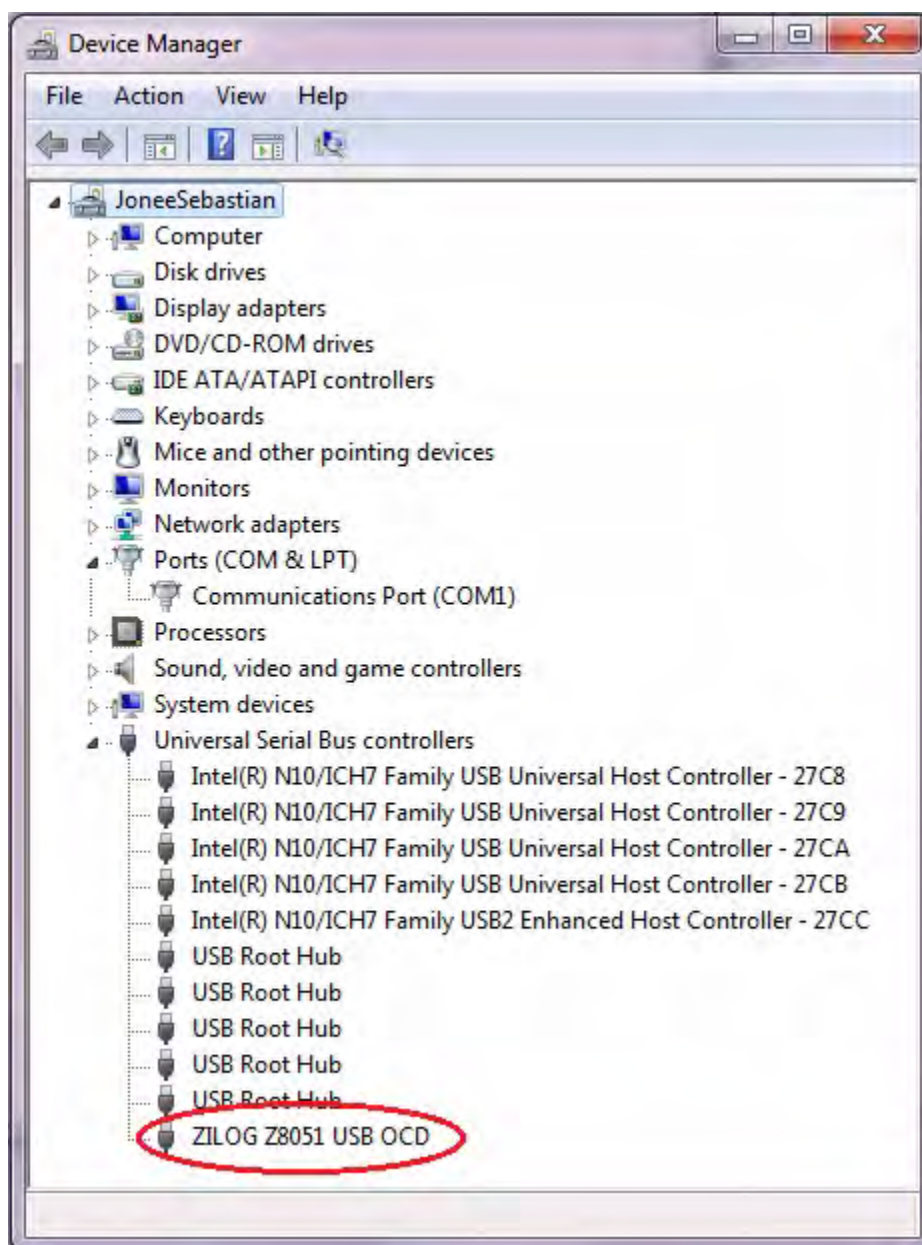

Figure 8. Device Manager Dialog, Windows 7
6. If *Zilog Z8051 USB OCD* appears in the Device Manager (as highlighted in Figure 8), the OCD driver software has been successfully installed.